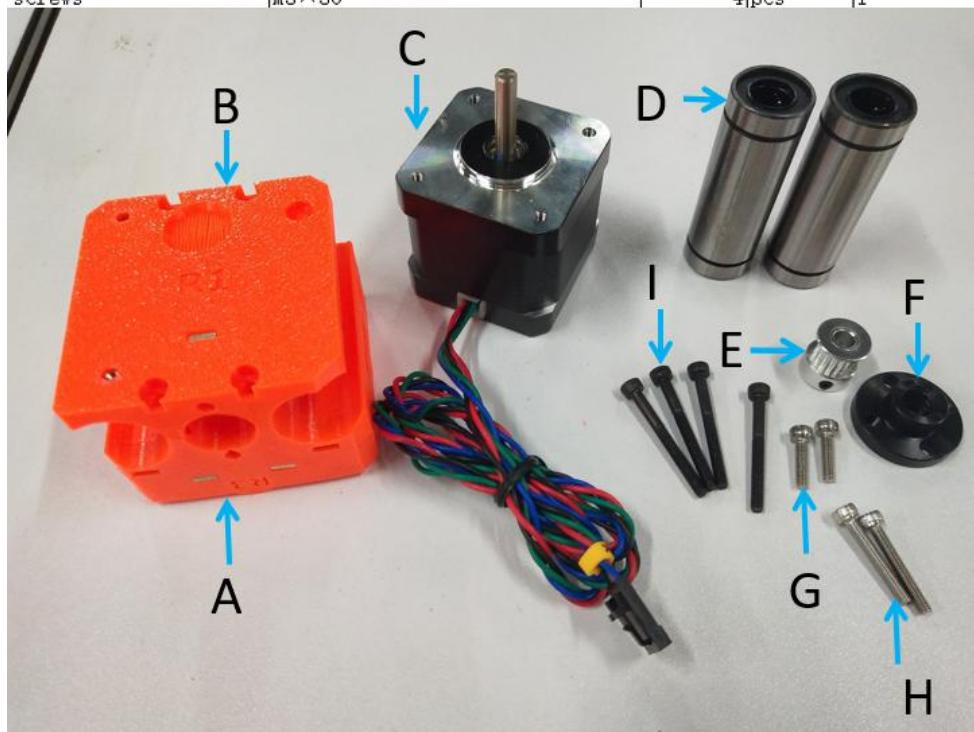

Figure 2.7.1
**Step 2-7-1:** As shown in Figure 2.7.1, prepare the materials and check whether the quantity of materials is correct, and prepare for the next installation.